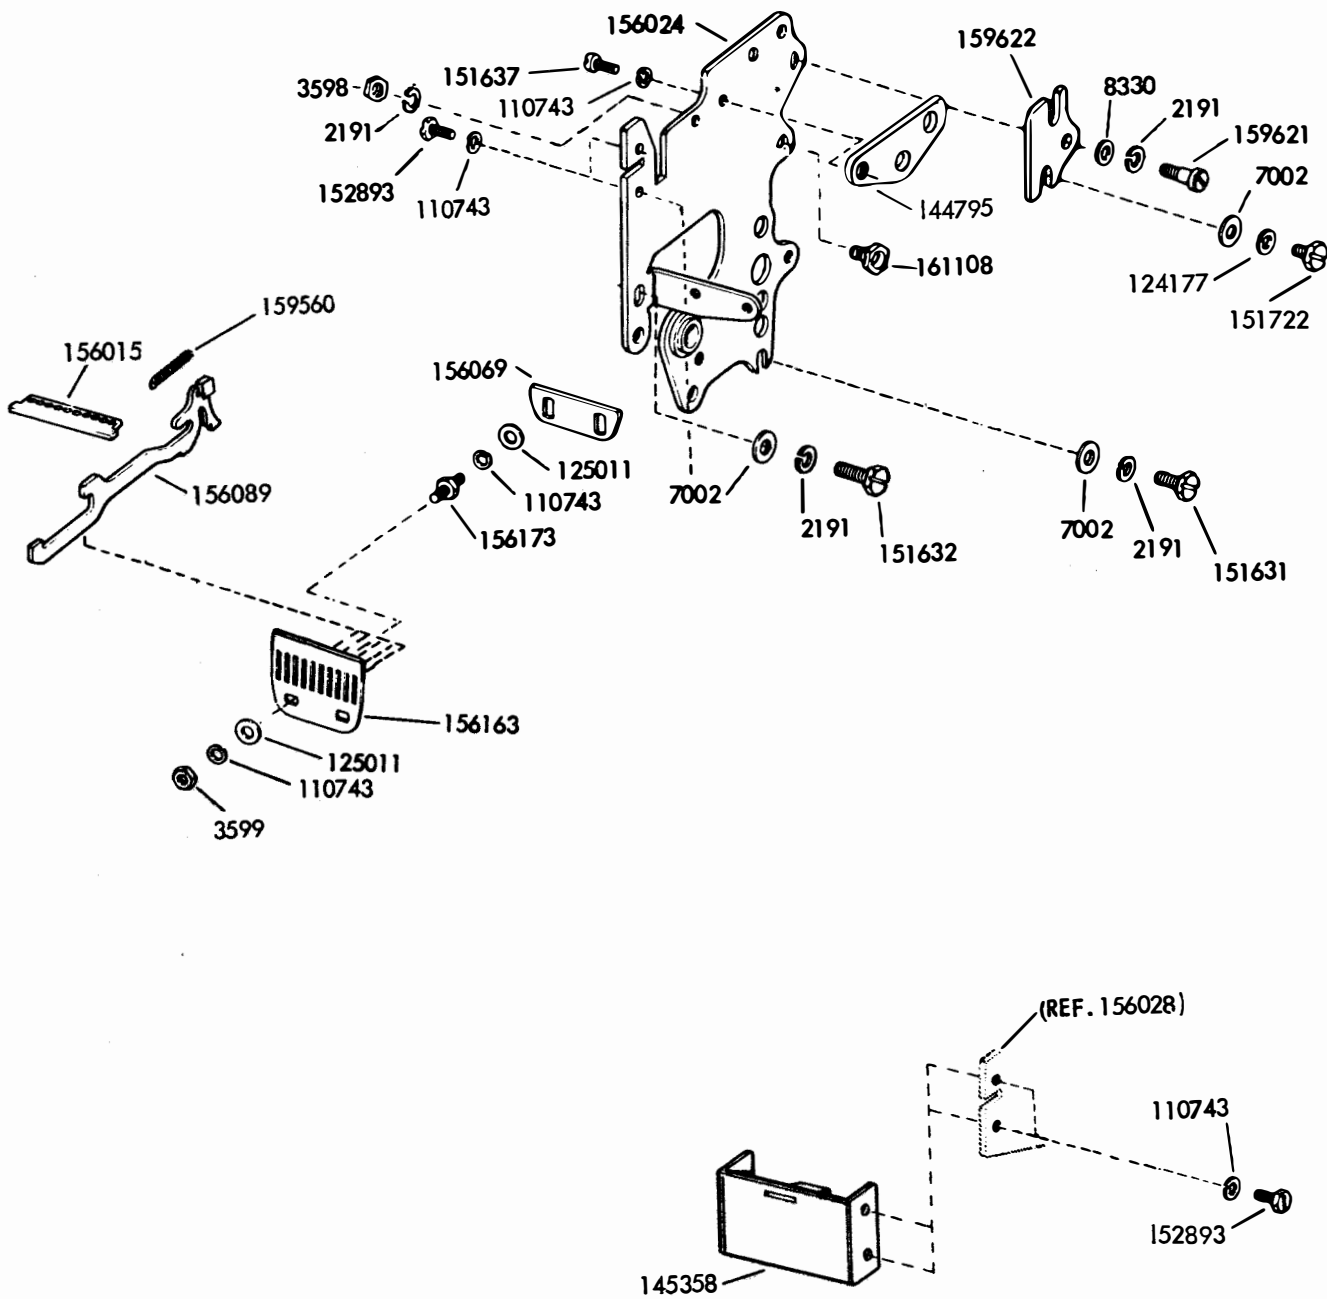

FIGURE 1.
2. INSTALLATION (Figures 1, 2 and 3)